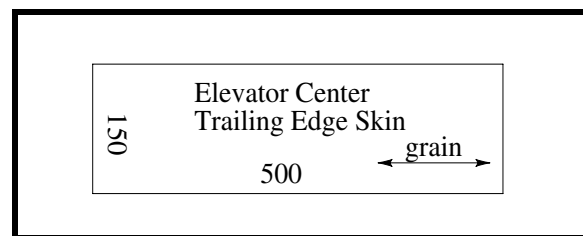

Figure 8
- ❑ Cut one piece of 2mm plywood for the elevator center trailing edge skin. See Figure 8.